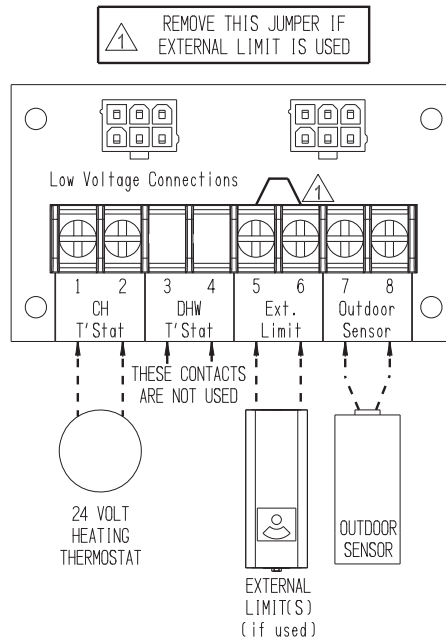

Figure 11.3: Low Voltage PCB Terminal Connections
This boiler is equipped with a listed high water temperature limit function. This limit provides boiler shutdown in the event the boiler water temperature exceeds the set point of the limit control. Certain Local Codes require an additional water temperature limit. If necessary, install an additional water temperature limit such as a Honeywell L4006 Aquastat. Wire as indicated in Figure 11.3.
2) Low Voltage Connections – Commonly used low voltage field connections are located on the low voltage PCB and are shown in Figure 11.3 and listed from left to right:
- 5 External Limit - Field supplied low voltage safety limit contacts (1)
- 6 External Limit - Field supplied low voltage safety limit contacts (2)
- 7 Outdoor Sensor - Tasseron TSA00AA Outdoor Temperature Sensor (1)
- 8 Outdoor Sensor - Tasseron TSA00AA Outdoor Temperature Sensor (2)